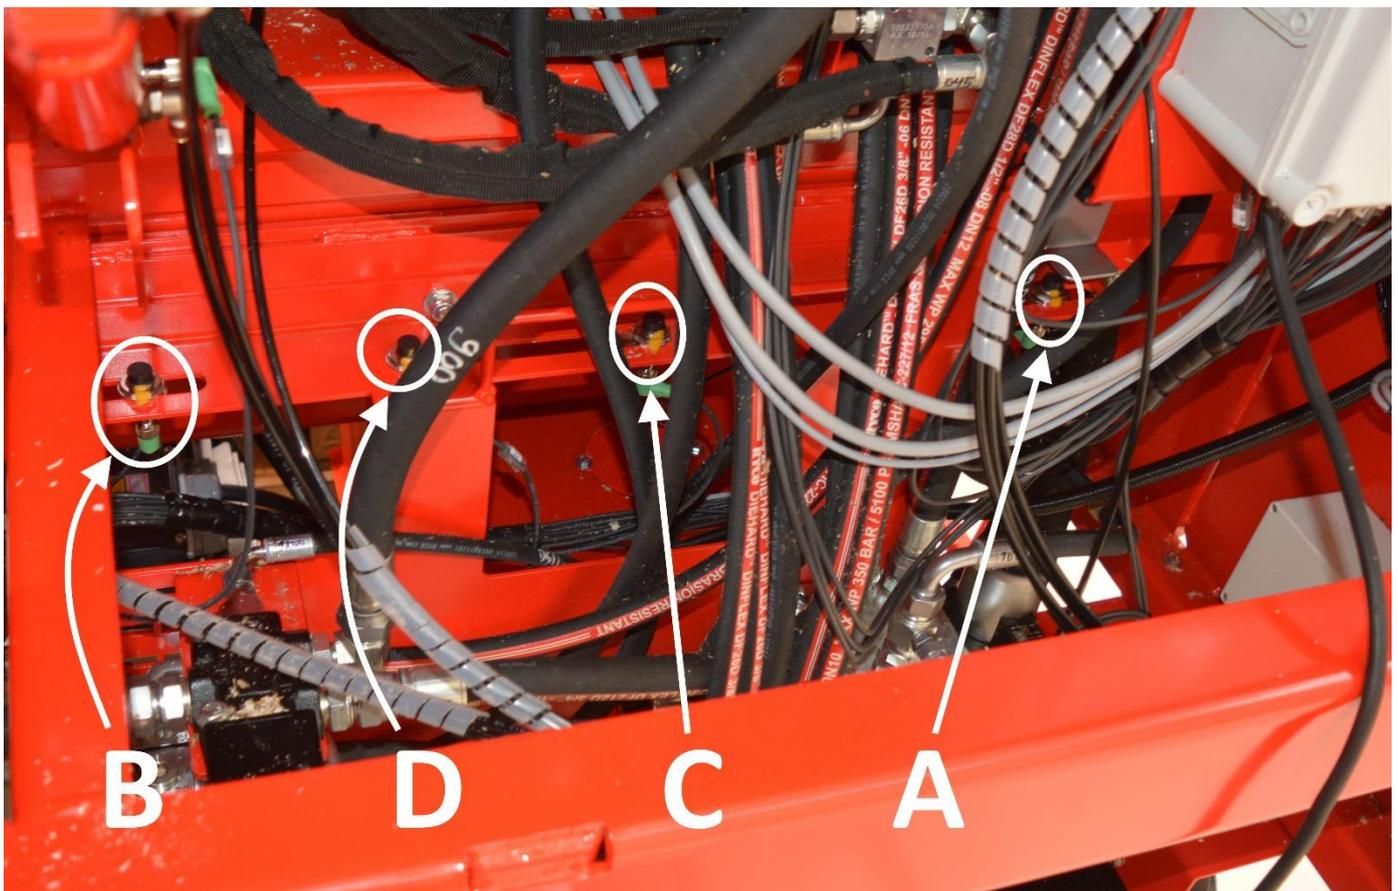

Figure 28.
In the Hakki Pilke 55 Pro firewood processor, the splitting cylinder is controlled electrically with sensors A and B in Figure 28. The stroke length of the splitting cylinder can be adjusted as follows:
2. Remove the machine's cover plate (from the rear of the machine), as shown in Figure 28.
3. Sensor A (Figure 28) determines the spot in which the splitting beam stops during the return motion. If necessary, change the position of the sensor. Loosen the sensor's fastening bolt, move the sensor and tighten the bolt to secure it in place.
4. Sensor B (Figure 28) is used to determine the point at which the splitting cylinder changes direction during the splitting cycle, i.e. how close to the splitting beam the splitting knife goes. If necessary, change the position of the sensor, as instructed in section 3 above.
When splitting logs with a diameter of over 30 cm but a length of under 24–40 cm with the Hakki Pilke 55 Pro firewood processor, the efficiency of the machine can be enhanced by limiting the movement of the splitting cylinder. You can activate the half stroke with monitor button A (Figure 11) and select either 1/2 stroke or 1/3 stroke. The stroke lengths can be adjusted by moving sensors C and D (Figure 28). It is preferable to set the adjustment so that the log remains slightly jammed in the splitting knife and only the next log will split it completely.